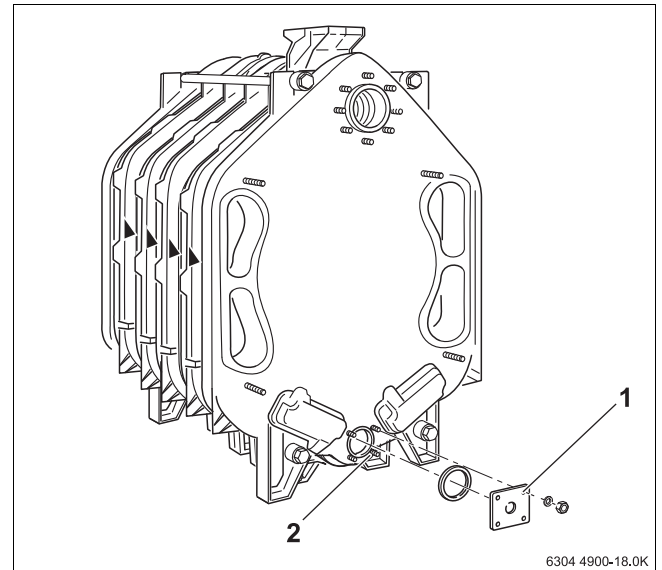

Fig 23 Fitting the flange
- Drain water via fill and drain valve (→ Fig. 23, [1], page 21) prior to connecting the water systems or if a hub joint is leaking.